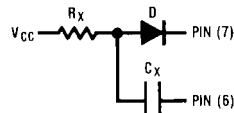

FIGURE 1.
- When an electrolytic capacitor is used for  $C_X$  a switching diode is often required for standard TTL one-shots to prevent high inverse leakage current (Figure 1). However, its use in general is not recommended with retriggerable operation.